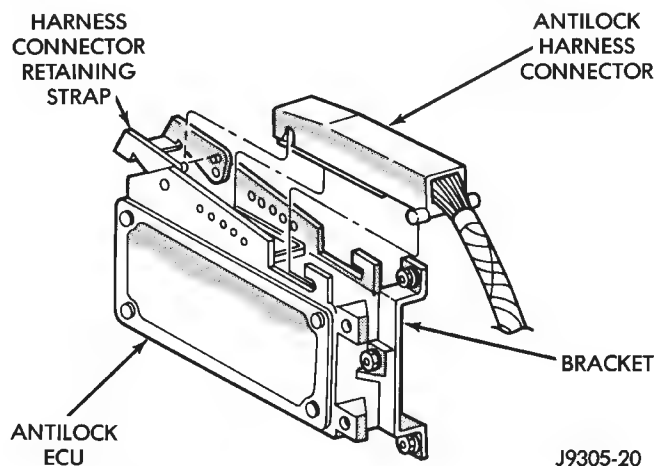

Fig. 15 ECU Harness Connector Attachment (XJ)
- (1) Turn ignition key to Off position.
- (2) Remove lower finish panel from instrument panel for added working clearance if necessary.
- (3) Remove ECU mounting bracket attaching bolts/nuts.
- (4) Release strap that secures ECU harness connector to pin terminals (Fig. 15). Use tool such as small flat blade screwdriver to lift and release strap.